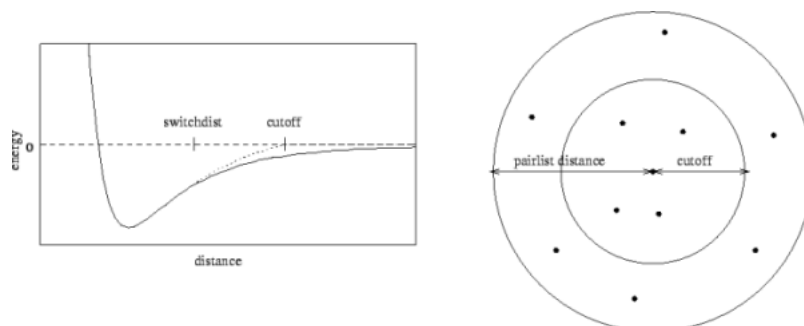

Figure 5: Cutoff and switching distances indicated on the left. Pair list distance indicated on the right.
- `switchdist`: indicates the distance in Å at which the functional form of electrostatic and van der Waals interactions is modified to allow their values to approach zero at the `cutoff` distance. A visual explanation of this is useful and may be found in Figure 5.
- `pairlistdist`: is designed to make computation faster. It specifies a distance in Å. NAMD will only search within this distance for atoms which may interact by electrostatic or van der Waals interactions. This way, NAMD does not have to search the entire system. The distance must be greater than the `cutoff` distance, and the list must be updated during the simulation. See Figure 5.